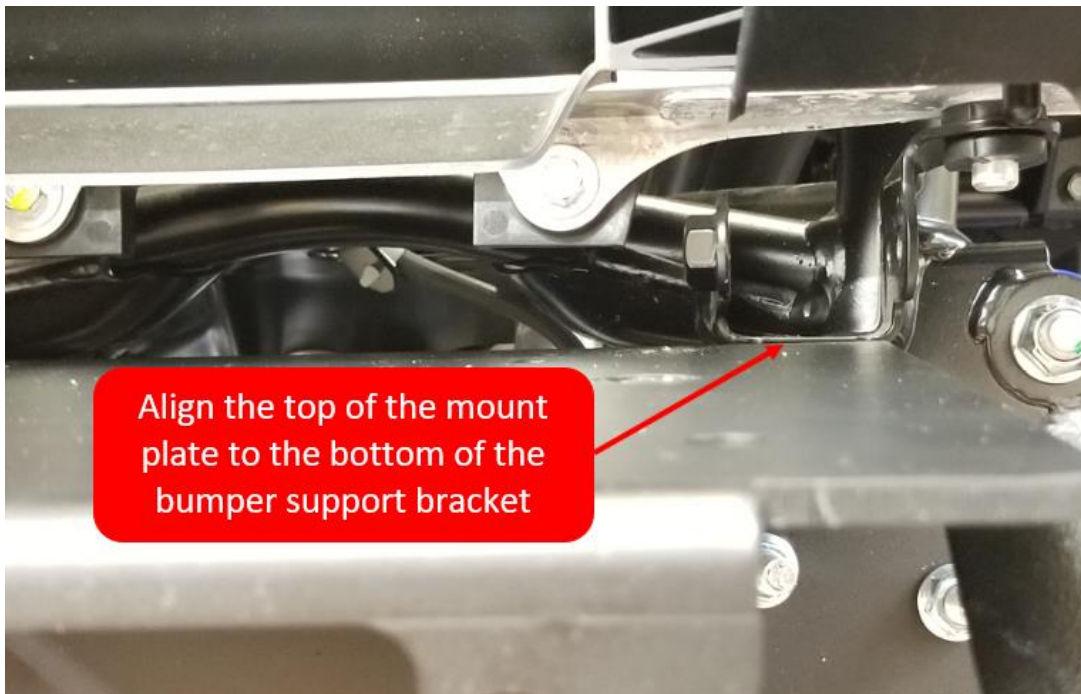

Figure 5
5. Position the top of the winch mount bracket inline with the bottom of the bumper support bracket on the vehicle frame as shown in Figure 5. Tighten the U-bolts.